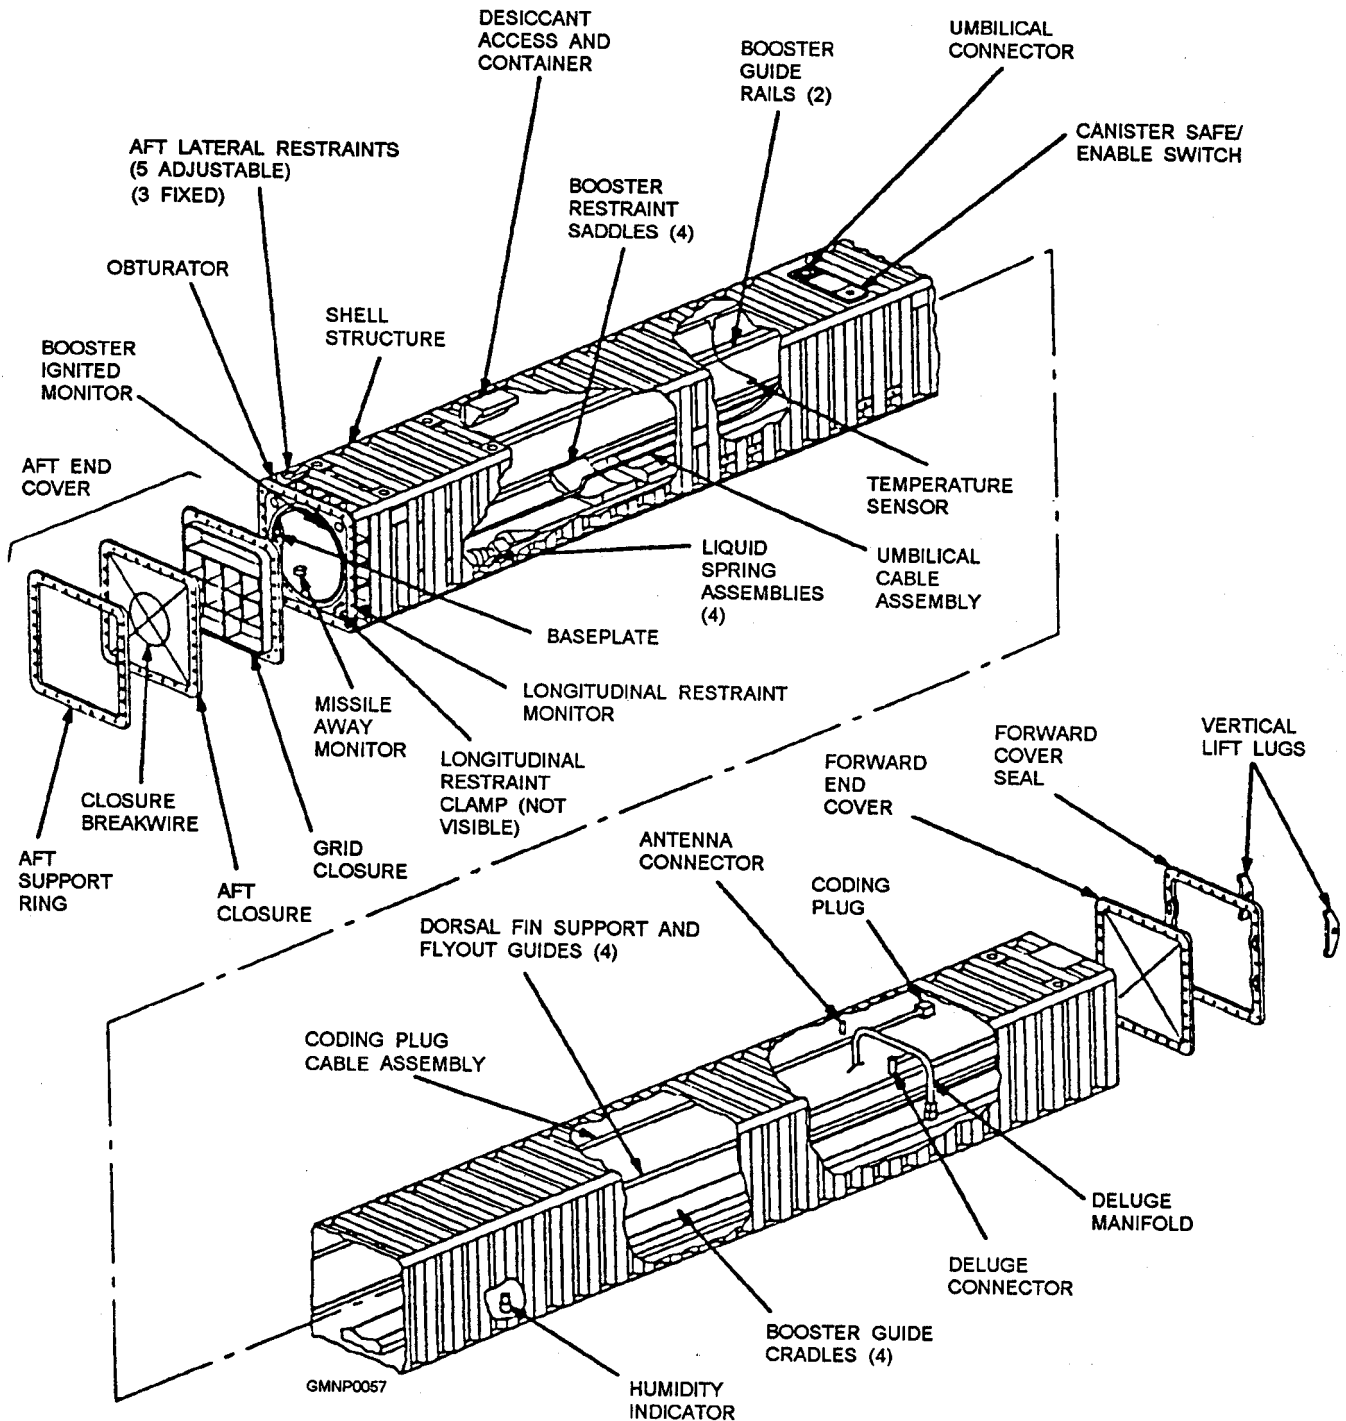

Figure 2-42.—Mk 21 Mod 0 canister.
MK 21 MOD 0 VLS CANISTER— The Mk 21 Mod 0 canister houses the SM-2 Block IV, extended range (ER) surface-to-air-missile (SAM) (fig. 2-42). Unlike other canisters, this is a single use canister. Dorsal fin flyout guides, booster guide rails, and booster guide cradles provide alignment for the missile during launch. A longitudinal restraint clamp is held secure to the booster until missile launch.